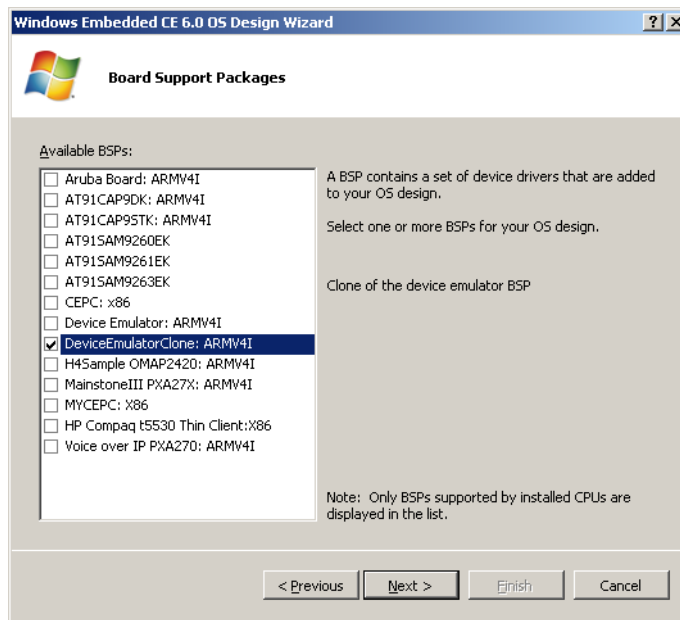

Figure 5-11 A new OS design based on the DeviceEmulatorClone BSP
1. In order to validate our cloned BSP, create a new OS design based on the DeviceEmulatorClone BSP. Call the OS design DeviceEmulatorCloneTest, as illustrated in Figure 5-11 (see also Lab 1 in Chapter 1 for details on how to accomplish this step).